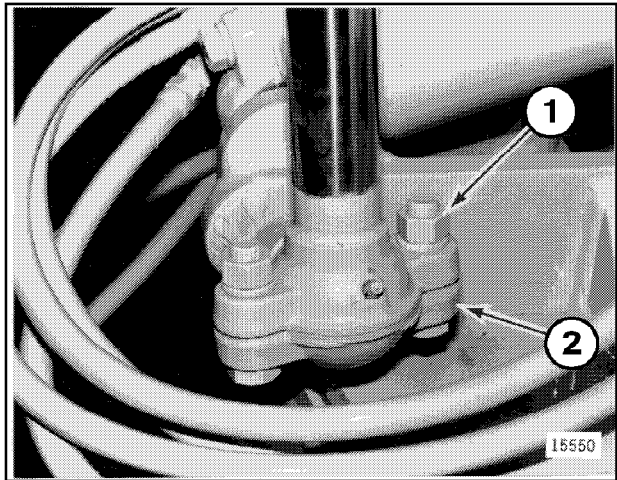

Figure 47
6. Remove two hex nuts, lock washers, and bolts (1, Figure 47), ball cap (2) and shims from piston rod.